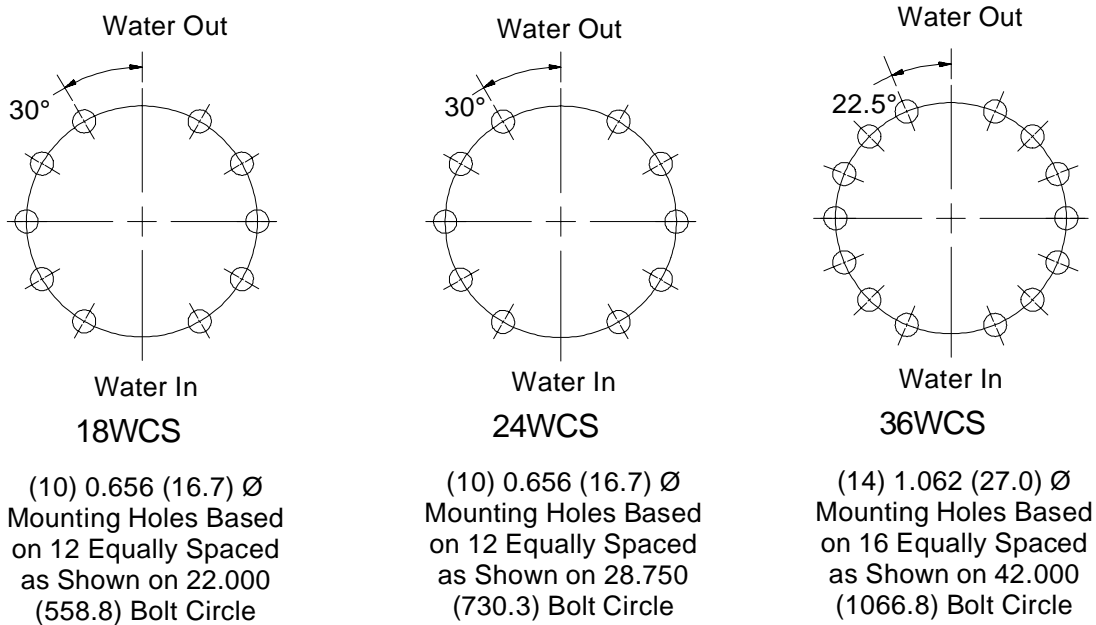

Figure 2
2.1.2 Figure 2 and Table 3 show the mounting dimensions for the tensioner to the machine frame or reaction bracket. Note that a male or female register may be used.
Water inlets and outlets must be in the 6 o'clock and 12 o'clock positions, respectively. See Figure 2. This will prevent air pockets in the water cavity, which would allow the tensioner to overheat.
Make sure that the water inlets and outlets are at the 6 o'clock and 12 o'clock positions, respectively. See Figure 2. This will ensure that there will be no air pockets in the water cavity during operation, which would allow the tensioner to overheat.